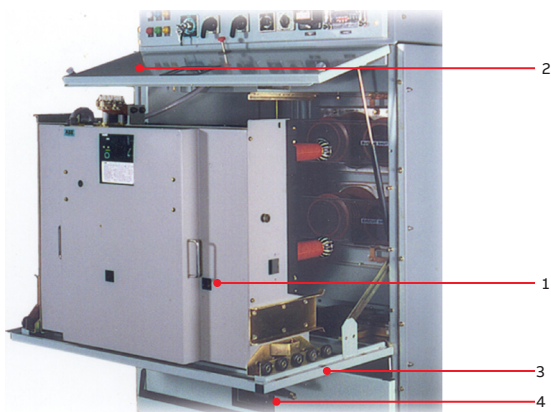

Fig 14.1
1. Remove following components from existing VHA36 panel (refer fig 14.1, 14.2, 14.3, 14.4)
Legends of fig 14.1 and 14.2: